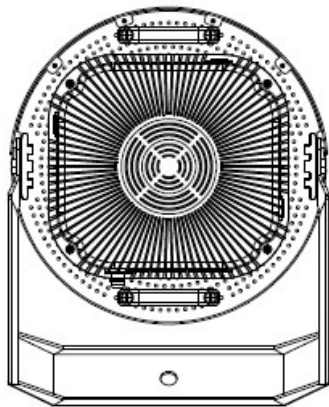
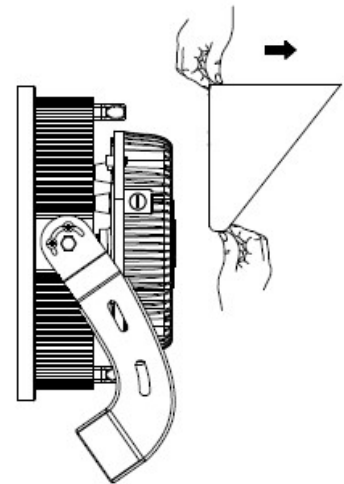

FIG.3
FIG.5
1) Dismount 6 pcs screws which are used to fix shroud onto the fixture (anticlockwise direction), take the shroud down. (See FIG.3 to FIG.5)